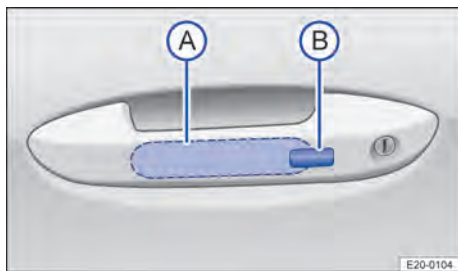

Fig. 56 In the door handle on the front doors: sensors
1. Touch the sensor → Fig. 56 Ⓐ on the inside of the door handle. All direction indicators flash twice.
2. Touch the sensor → Fig. 56 B on the outside of the door handle. All direction indicators flash once.
2. Touch the sensor on the outside of the door handle once within five seconds → Fig. 56 B. Do not reach into the door handle. Keyless Entry is deactivated temporarily.